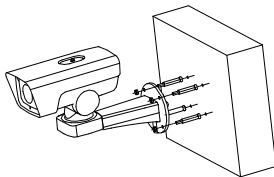

Figure 2-57 Install the Wall-mounted PTZ Bullet Camera
3. Fix the camera on the wall by knocking the expansion screws into the wall through the bracket, as shown in Figure 2-57.